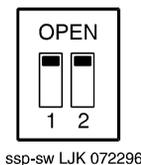

Figure 5-13. SSP Circuit Card Two-Position Switches
Figure 5-13 shows the location of the SSP circuit card two-position switches. If the SSP circuit card is not located at the end of the TDM bus, both switches should be set to open. The switches should be set to closed if the SSP circuit card is located at the end of the bus.
8. Verify the two-position selector switches, on the SSP circuit card, are set as shown in Figure 5-13.